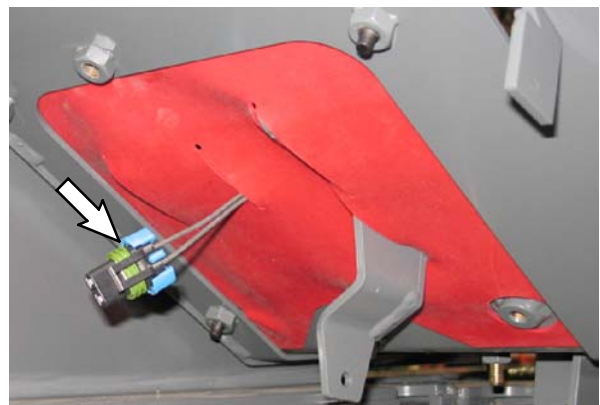

FIG. 5
- Machines with overhead guards:** Connect the overhead light harness (21) to the light (20). Refer to Fig. 5.
- Route the snap switch (15) cable down through the rubber gasket in the propel pedal access panel. Refer to Fig. 5.